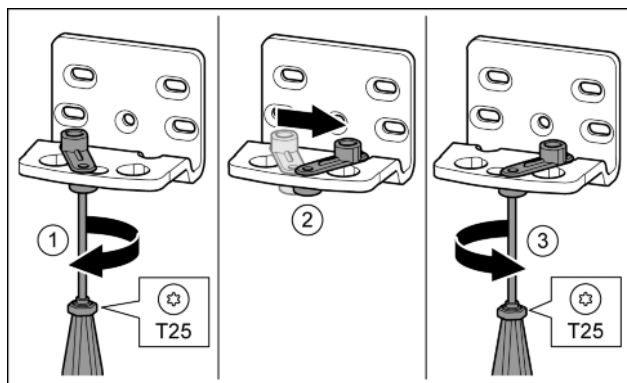

Fig. 11
- Loosen the screw using a T25 screwdriver. Fig. 11 (1)
- Lift the door closure aid and turn it 90° to the right in the hole. Fig. 11 (2)
- Tighten the screw using a T25 screwdriver. Fig. 11 (3)